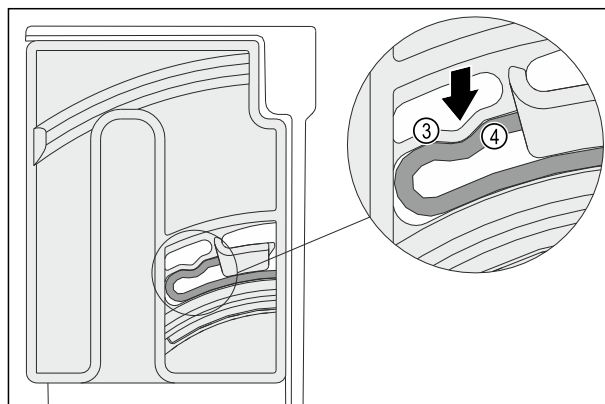

Fig. 146
- ▶ The elastic element *Fig. 146 (3)* of the swivel unit clicks audibly in the round mold of the ridge *Fig. 146 (4)*.